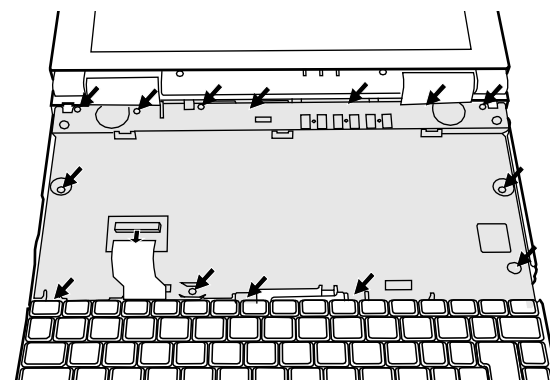

Figure 5-18. Removing the Shield Plate
4. Replace the shield plate and secure with 14 screws.(fig 5-18)